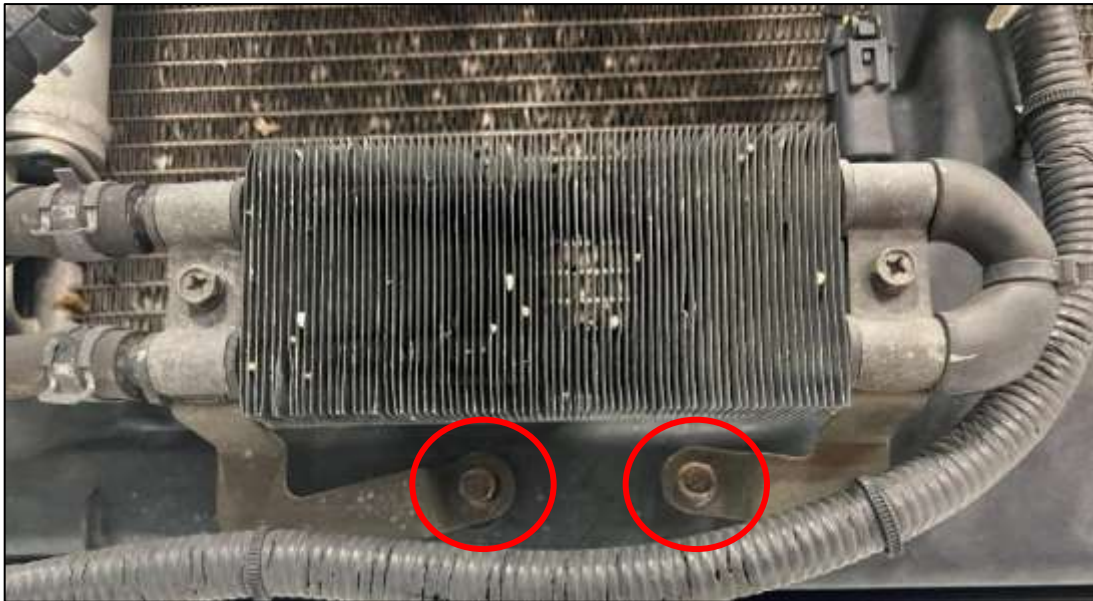

Figure 20
10. The OE Power Steering Cooler will need to be moved. Unbolt the (2) two bolts securing the OE Power Steering Cooler to the Core Support. *Figure 20.*